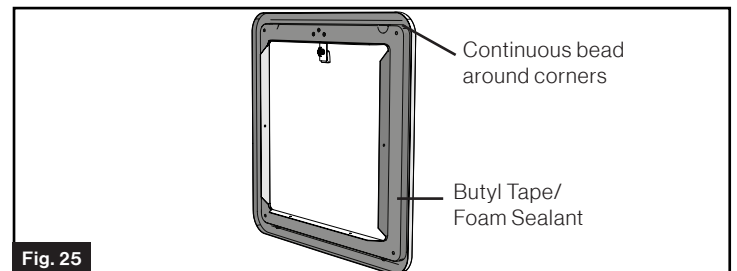

Fig. 25
3. Apply adequate water sealing material, e.g. butyl tape or foam sealant (recommended width: 1", not provided), around the entire backside of the door frame, flange areas and holes. (Fig. 25)